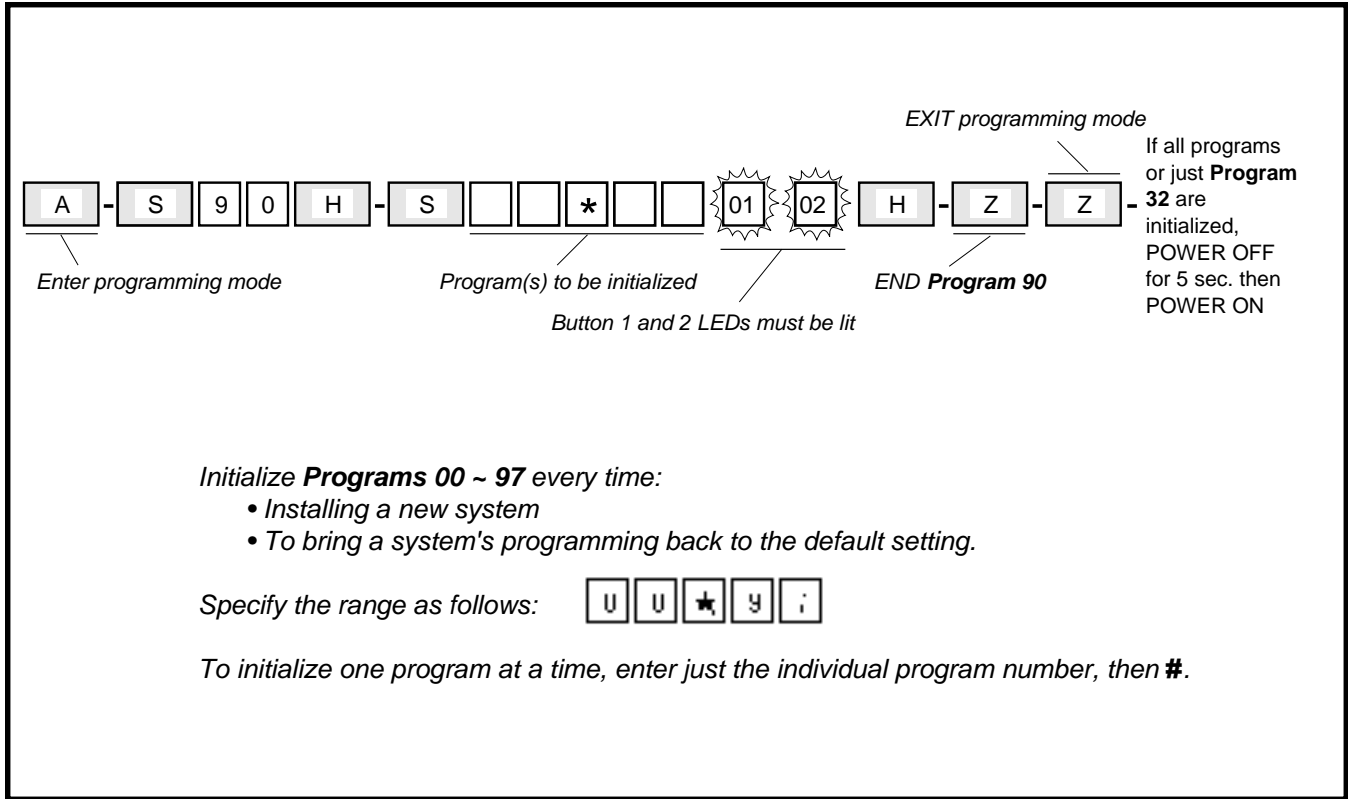

FIGURE 1-2—INITIALIZING DATA FOR PROGRAMS 00 ~ 97 WITH PROGRAM 90
4.10 Initialize Programs 00 ~ 97 Data with Program 90: Always initialize a system with **Program 90** when it is first installed or when its software must be brought to the default configuration. If only minor programming changes are being added to a system in which the programming is basically correct, skip this section. Follow the steps in Table 1-C and Figure 1-2 to run **Program 90**.